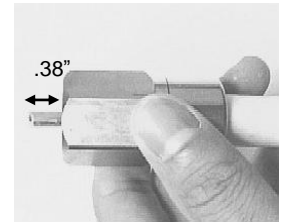

Figure 4
- 5) **Slide** back-nut of connector onto cable end. Center conductor should protrude .38" (Figure 4). **Slide** front-nut onto center conductor and **hand-tighten** connector by turning the back-nut (Figure 5).